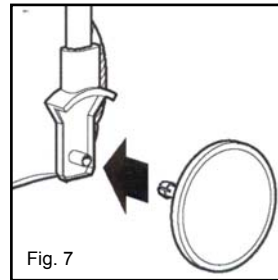

Fig. 7
7. To attach the wheels to the support brackets, just push them in until they lock in place. (Fig. 7)